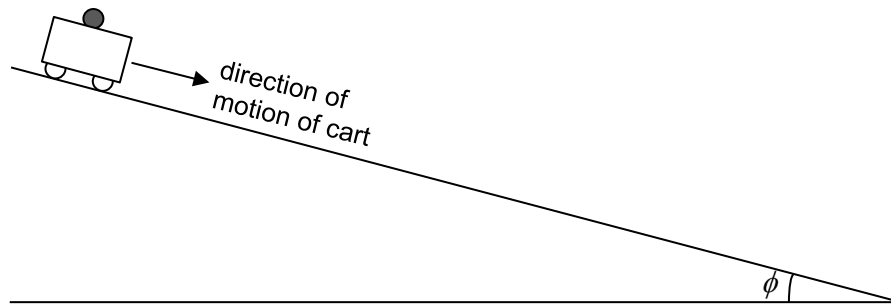

Fig. 2.2
- (b) A cart carrying a ball accelerates down a long plane inclined at an angle ϕ to the horizontal as shown in Fig. 2.2. The cart then launches the ball such that the ball's initial velocity with respect to the cart is perpendicular to the motion of the cart. The ball is under free fall after it was launched from the cart.
- (i) On Fig. 2.2, sketch the trajectory of the ball after it was launched from the cart, as viewed by a person on the ground. [1]